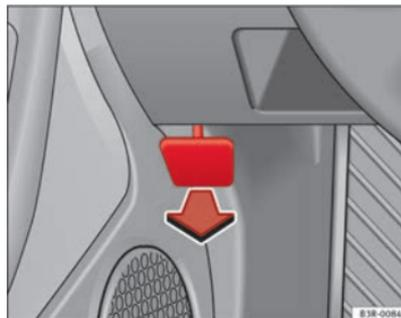

Fig. 168 Detail of footwell area on driver side: lever for unlocking the bonnet
- To release the bonnet, pull the lever under the dash panel ⇒ Fig. 168 in the direction indicated (arrow).